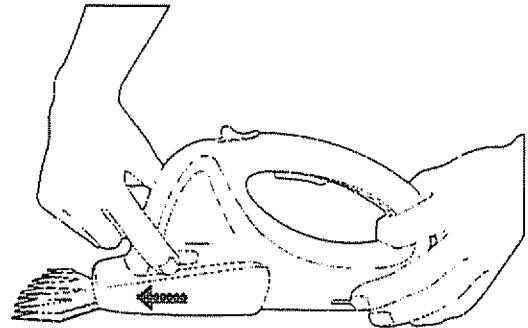

Figure 2.
3. Grip the rear of the handle with one hand, while gripping the black release buttons (on each side of the unit) with the thumb and index finger of the other hand. See Figure 2.
4. Squeeze in and pull the release buttons FORWARD and lift the tool upward to disengage it from the blade and gearbox. See Figure 2.